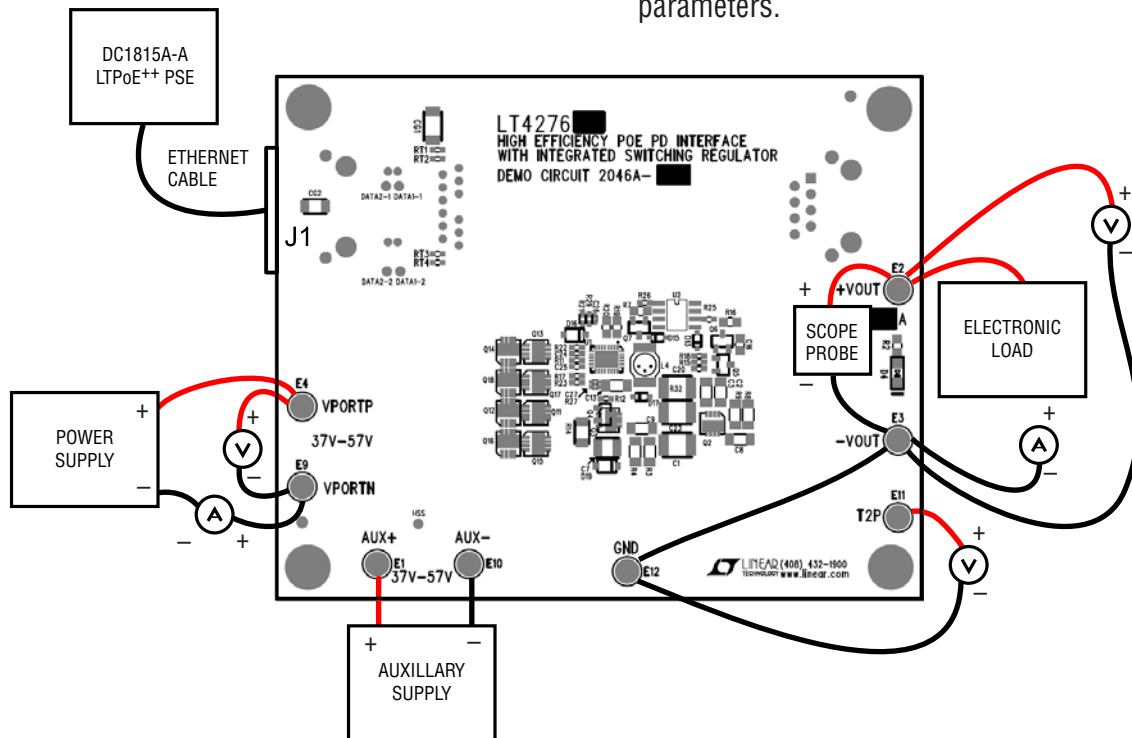

Figure 8. Proper Measurement Equipment Setup
Demonstration circuit 2046A-E is easy to set up to evaluate the performance of the LT4276 in a PoE+ application. Refer to Figure 8 for proper equipment setup and follow the procedure below:
1. Place test equipment (voltmeter, ammeter, power supplies, and electronic load) as shown in Figure 8.
- a. Connect a LTPoE++ capable PSE with a CAT-5 cable to the RJ45 connector, J1. See Figure 8.
- b. Or, connect a 37V to 57V capable power supply (Power Supply in Figure 8) across V_{PORTP} and V_{PORTN} .
- c. If evaluating the auxiliary power supply (Auxiliary Supply in Figure 8), connect a 37V to 57V capable power supply across AUX^+ to AUX^- .